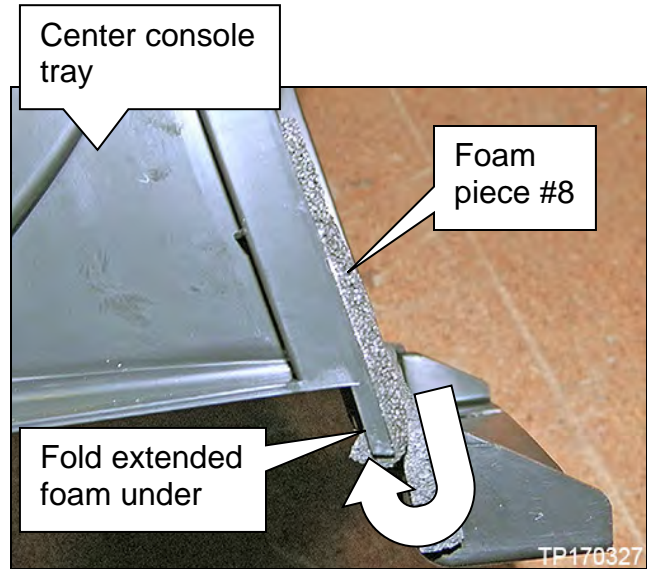

Figure 3C
- d. Fold the extended bottom of foam under as shown in Figure 3C.